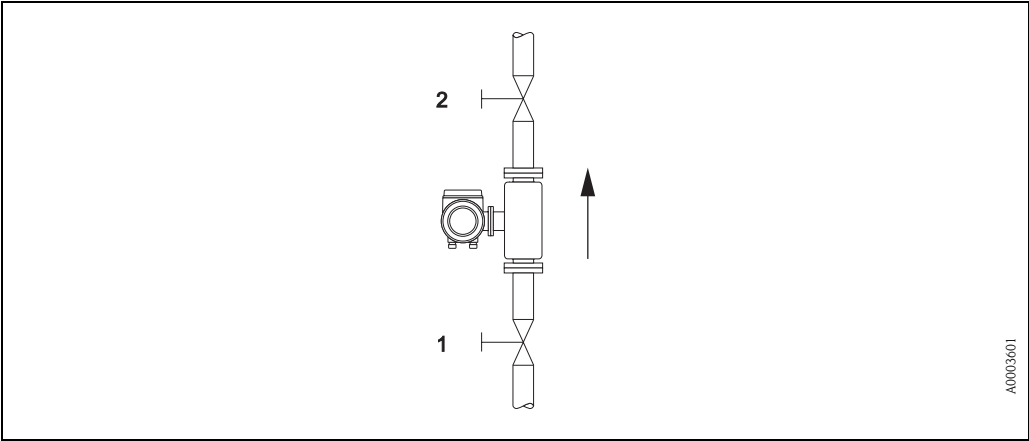

Fig. 17: Zero point adjustment and shut-off valves (1, 2)
- A zero point adjustment is performed with the measuring tubes completely filled and at zero flow ( $v = 0$  m/s). This can be achieved, for example, with shut-off valves upstream and/or downstream of the sensor or by using existing valves and gates (Fig. 17):